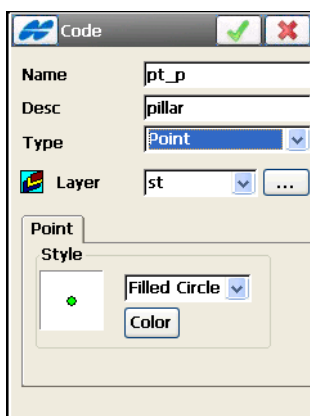

Figure 6-21. Edit Code - Point Type
- **Edit** – opens the applicable *Code* (Figure 6-21 on page 6-19) or *Attribute* (Figure 6-24 on page 6-21) screen with the properties of the highlighted entry.
On the **Code** screen (Figure 6-21 on page 6-19), set the following code parameters:
- *Point*: when *Point* is selected in the *Type* field, color and symbol attributes for the point displays (Figure 6-21 on page 6-19). The **Color** button opens the **Color** screen (see “On the Select Color” on page 6-13).